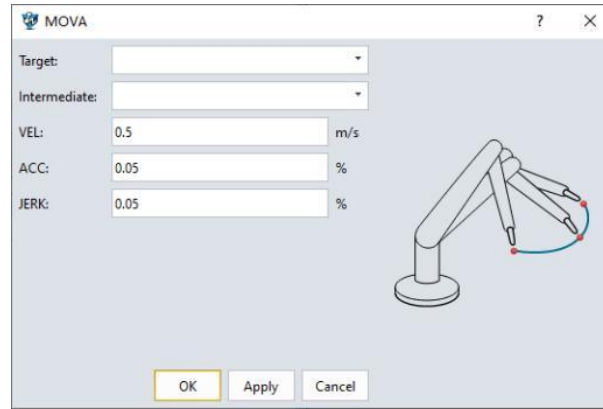

Figure 3-36: MOVA
(4) MOVA:
- **Explanation:** The unit of VEL is m/s; ACC and JERK both use percentage form, and the input range is a positive number. If it is less than or equal to 0, an error will be reported; (Figure 3-36)